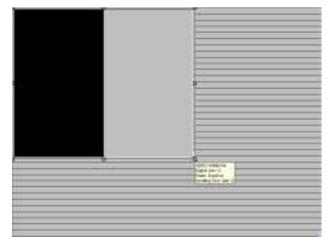

Figure 3b
- 2) Draw a slider the same size and in the same location as the video window (Figure 3b)